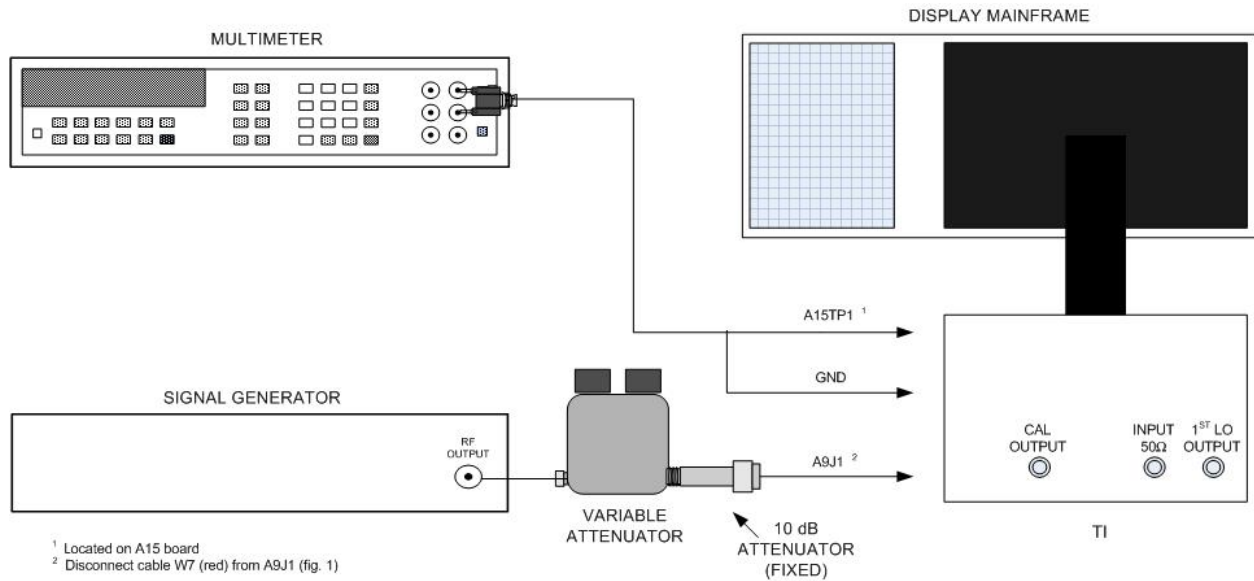
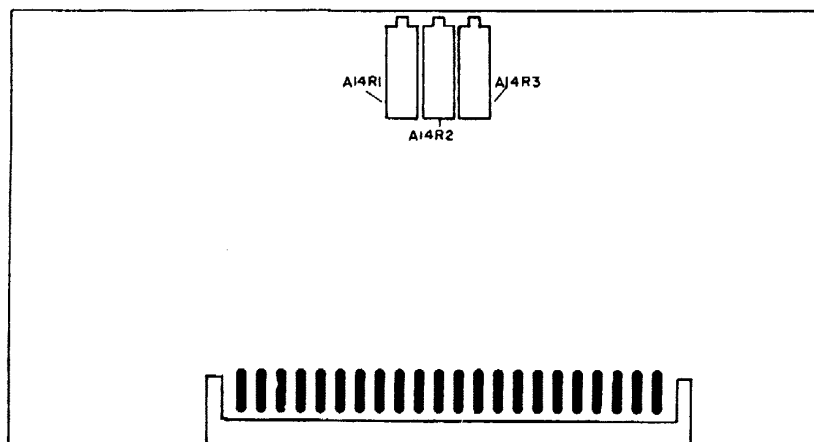

Figure 12. Log amplifier adjustments - equipment setup.
Figure 14. A14 log amplifier - adjustment locations (SN prefix 2142A and below).
(1) Connect equipment as shown in figure 12.
(29) Connect equipment as shown in figure 12.
(30) Set variable attenuator 10 dB step control to 0 dB.
(31) Adjust signal generator frequency controls to 301.4 MHz and RF output level to -13 dBm.
(32) Set **TEST/NORM** switch (located on A12 board) to **TEST** position.
(33) Adjust signal generator frequency controls for a maximum signal amplitude display on crt. (Reduce signal generator RF output, if necessary.)
(34) Adjust signal generator RF output controls for a multimeter indication of 700 mV.
(35) Set **REFERENCE LEVEL** switch to **-80 dBm**.
(36) Set variable attenuator 10 dB step control to 30 dB and adjust A14R3 (fig. 14) for a multimeter indication of 700 mV (R).
(37) Repeat (34) through (36) above until multimeter indication is between 698 and 702 mV.
(38) Set **REFERENCE LEVEL** switch to **-50 dBm**.
(39) Set variable attenuator 10 dB step control to 0 dB.
(40) Set **REFERENCE LEVEL** switch and variable attenuator 10 dB step control to settings as listed in table 11. If any deviation from reference is not within specified limits, readjust A14R3 (fig. 14) for best (in limits) compromise (R).
(41) Set signal generator RF output to STBY position. Record multimeter indication as offset value.
(42) Set signal generator RF output to on and press TI 10 dB/DIV pushbutton in.
(43) Set variable attenuator 10 dB step control to 40 dB and adjust signal generator RF output controls for a multimeter indication of 400 mV plus offset value recorded in (41) above. (Refer to (8) above for examples on adding offset value to multimeter indication).
(44) Set variable attenuator 10 dB step control to 0 dB. Multimeter will indicate 800 mV, ±1 mV (plus offset value recorded in (41) above). If not, adjust A14R2 (fig. 14) for a multimeter indication of 800 mV plus offset value recorded in (41) above (R).
(45) Set variable attenuator 10 dB step control to values as listed in table 12. Record multimeter indication for each variable attenuator 10 dB step control setting. Correct multimeter indications by algebraically adding offset value recorded in (41) above and adjust A1 4R2 (fig. 14) to meet limits listed in table 12 (R).
(46) Set **REFERENCE LEVEL** switch to **-50**.
(47) Press **1 dB/DIV** pushbutton in and set variable attenuator 10 dB step control to 0 dB.
(48) Adjust signal generator RF output controls for a multimeter indication of 700 mV (do not include offset value).
(49) Set **REFERENCE LEVEL** switch to **-90**.
(50) Set variable step attenuator 10 dB step control to 40 dB and adjust A14R1 (fig. 14) for a multimeter indication of 700 mV (do not add offset value) (R).